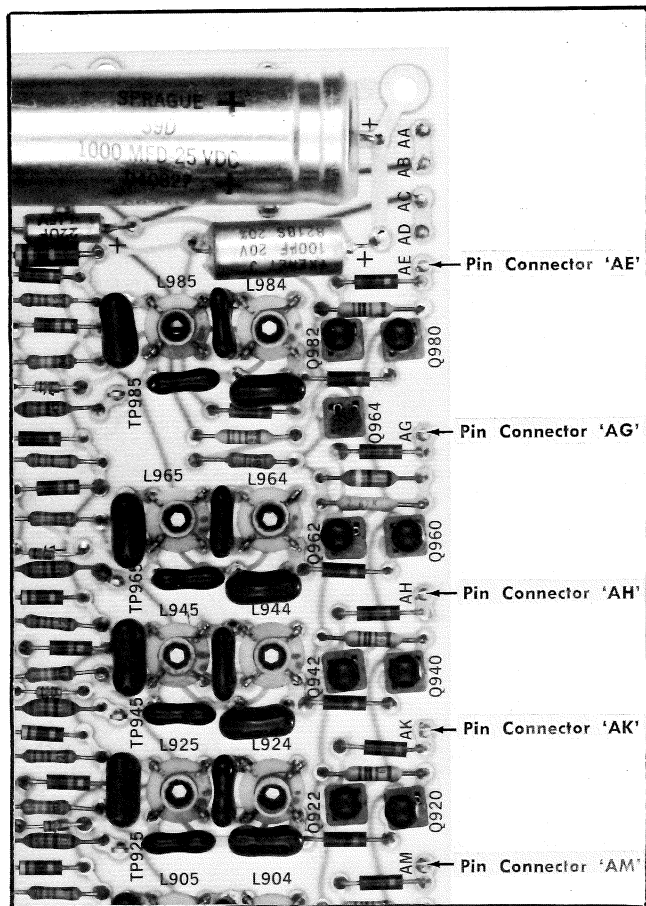

Fig. 5-50. Output Amplifier board pin connector locations.
- n. Disconnect pin connectors "AE", "AG", "AH", "AK", and "AM" on the Type R141A Output Amplifier board, see Fig. 5-50.